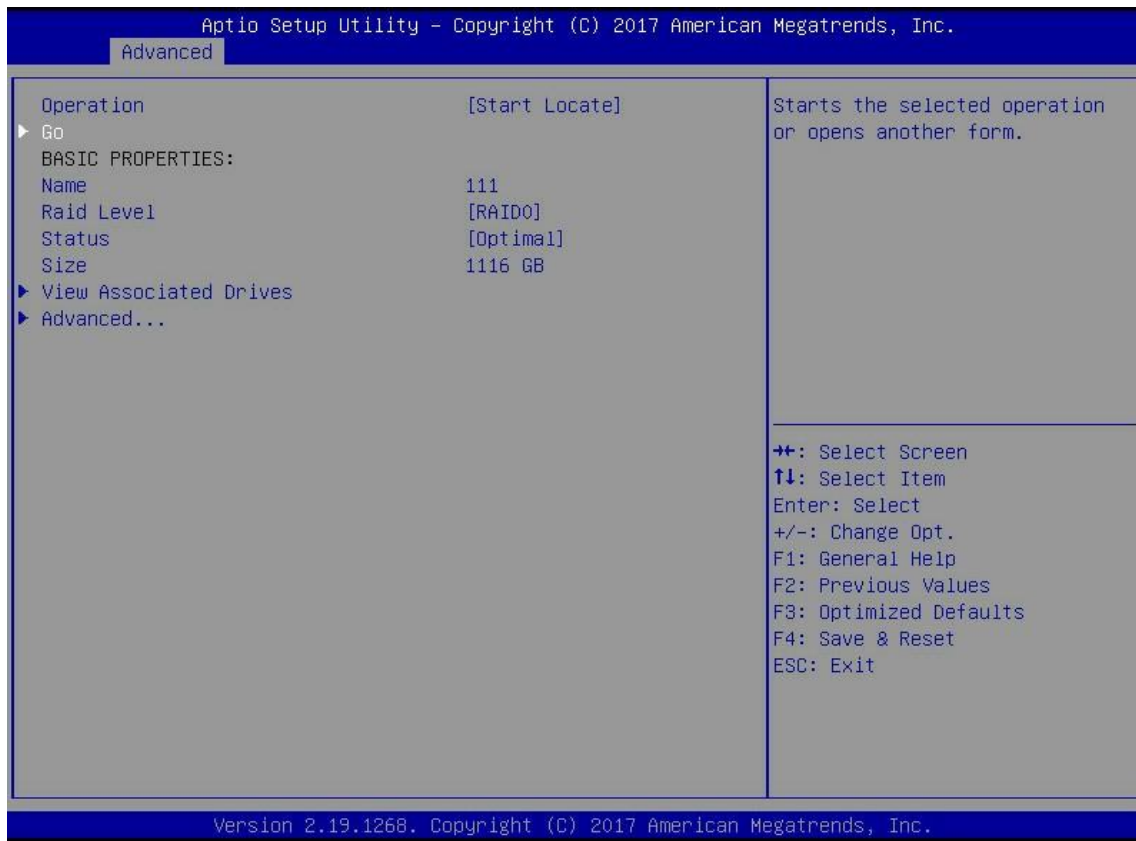

Figure 6-39
d) Enter the interface shown in figure 6-39, select go and press enter.